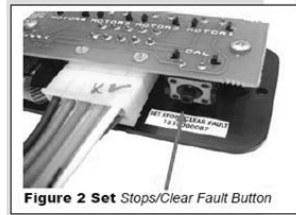

Figure 2 Set Stops/Clear Fault Button
- **MAJOR faults must be cleared by pushing and releasing the SET STOPS/CLEAR FAULTS button located on the back of the wall touchpad. (Fig 2)**
3. Press and hold the SET STOPS/CLEAR FAULTS button on the back of the touchpad for five (5) seconds (Fig 2). Both RED & GREEN LEDs will be on solid while pressing this button. After 5 seconds, the GREEN LED will begin flashing and the RED LED will remain solid on.